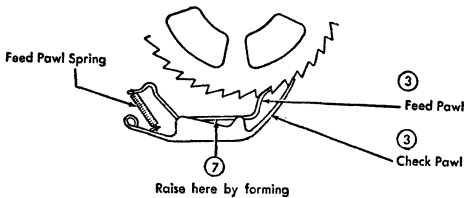

Figure 42. Ribbon Feed Pawl and Check Pawl Adjustment
3. THE RIBBON CHECK OR FEED PAWL should be formed so that they rest about $1\frac{1}{2}$ teeth apart when engaging the spool. When operating a type bar by hand, the feed pawl must stay bottomed in a tooth of the spool. It should have a minimum motion of $1\frac{1}{2}$ teeth to insure a positive one-tooth feed. Use a left-hand type bar to check the right-hand feed. Use a right-hand bar to check the left-hand feed. This method will provide a critical test for satisfactory ribbon feed (Figure 42).
7. THE RIBBON FEED PAWL on the supply side should not drag against the spool. Select the type bar closest to the supply side, hold it against the platen, and rotate the supply spool. If the feed pawl drags, remove it and form a raised curvature in the area that contacts the reversing bar (Figure 42). Recheck the ribbon feed.